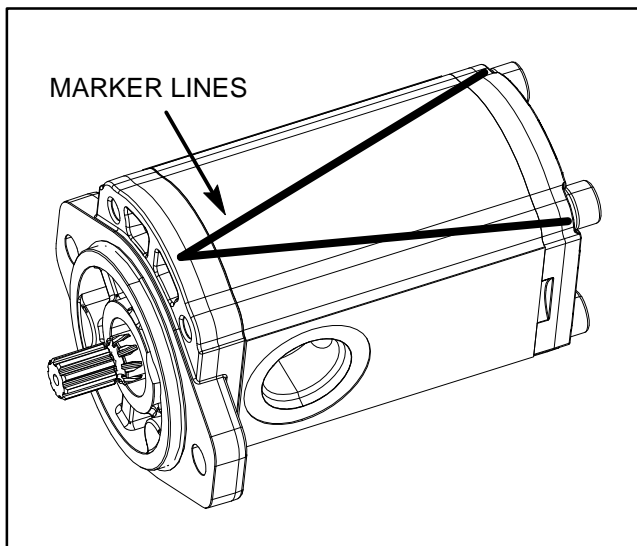

Figure 41
2. Use a marker to make a "V" across the front cover, housing and end cover for assembly purposes (Fig. 41).